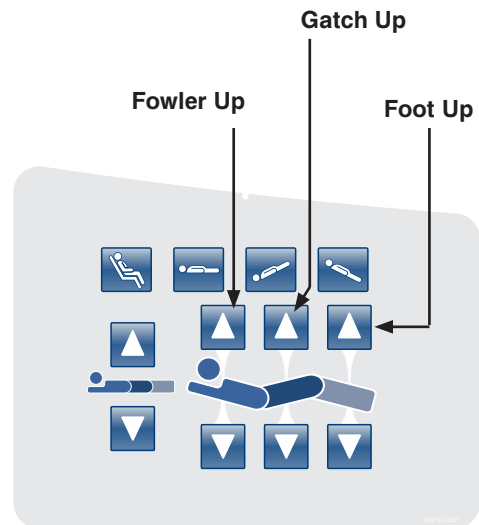

Figure 21: Head Siderail Control Panel - (Right Side Shown)
22. Press the **Fowler Up** button until the Fowler reaches the highest height, next press the **Gatch Up** button until the Gatch reaches its highest height, lastly press the **Foot Up** button until the foot section reaches its highest height (refer to Figure 21 below). The foot section should be at a flat position.